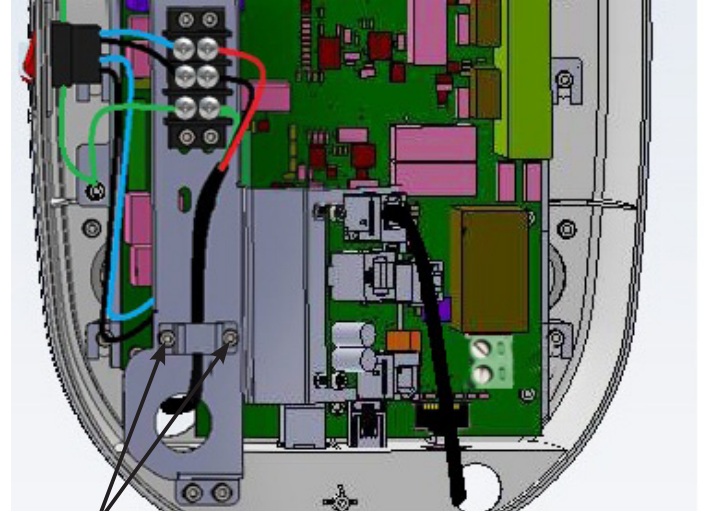

Figure 19:M3x6 hex socket head cap screws (Use 2.5mm allen key).
- Remove the cable clamp (located near the input wiring hole) by removing two (M3x6 HSHC) screws using 2.5 mm allen key as shown in Figure 18 . Using screw driver fix the line, neutral and earthing wires coming from the wall to the terminal block such that Line wire matches with label "L", Neutral wire matches with label "N" and Earth wire matches Label "E" as shown in Figure 19 .